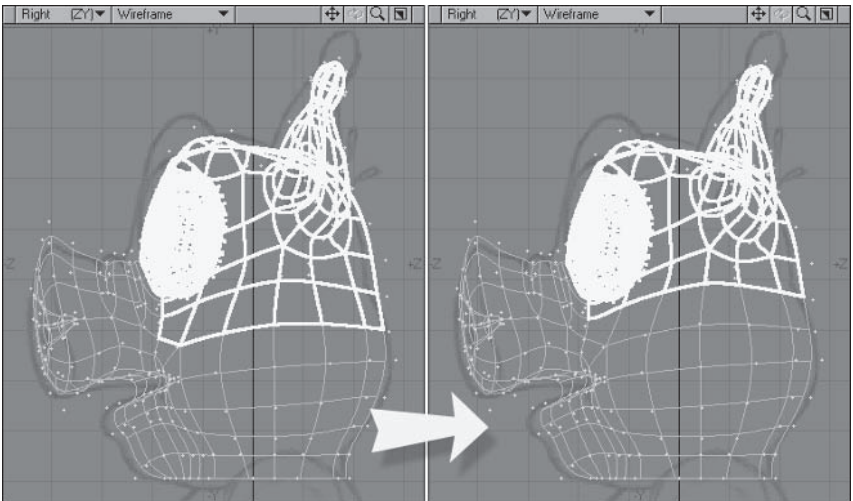

Figure 5.3-91. Make sure you include the eyeballs in the selection.
1. Place the head and eyeball layers in the foreground. Select the polygons shown in Figure 5.3-91 and move down a bit. Deselect the bottom band and move down again.